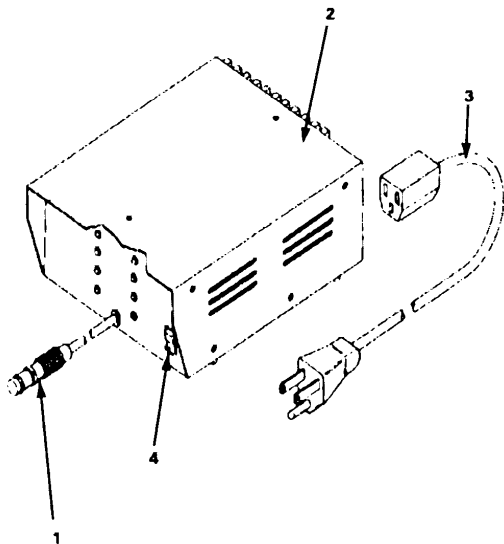

Figure 3-3. AGU Battery Charger
- b. Charging AGU Batteries. (See Figure 3-3.) Charge the AGU batteries as follows:
- (1) Unscrew the charger receptacle cover on the side of the AGU.
- (2) Insert the charger plug (1) of the AGU Battery Charger (2) into the AGU receptacle, making sure the keyed positions of the plug are aligned properly.
- (3) Set the voltage selector to 115 or 230, depending upon available line voltage.
- (4) Plug the power cord (3) into electrical outlet.
- (5) Set the charger ON/OFF switch (4) to ON.
- (6) Charge the batteries for at least 6-8 hours. Overcharging is protected automatically by the charger circuit.
- (7) When battery charging is complete, remove the battery from the charger.